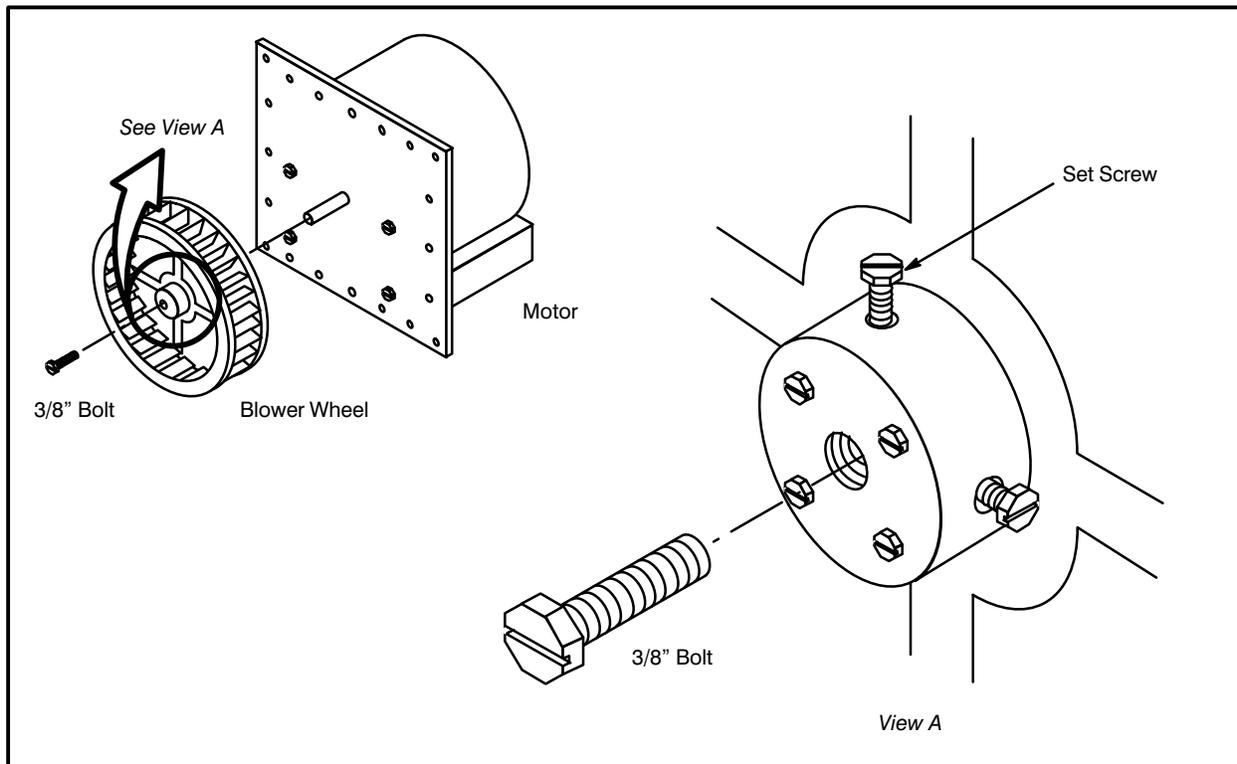

FIGURE 3
3. Loosen the set screws in the blower wheel hub. See FIGURE 3.
4. Screw a 3/8"-16 bolt into the threaded hole of the blower wheel. Draw the wheel forward from the shaft. See FIGURE 3.